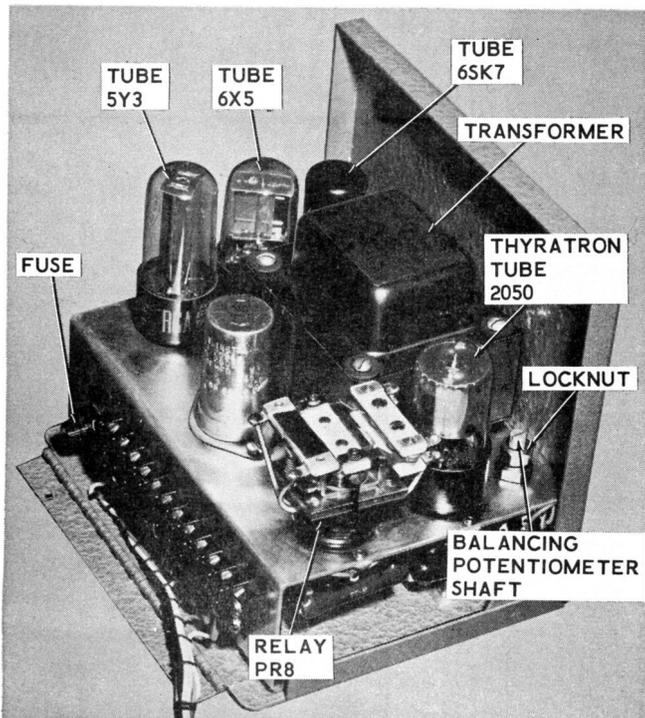

Figure 3-25. Photo Registration Amplifier
The phototube scanner (Figure 3-24) creates a signal voltage when light intensity on the phototube changes. This signal voltage is sent to the amplifier (Figure 3-25) where it is increased to fire a thyatron tube. The thyatron tube energizes a magnetic DPDT relay to apply the feed roll drive electric brake. The thyatron tube remains locked in and the relay energized until a reset switch (LSR) is operated by the cam of the sequence switch assembly. The scanner requires no adjustment for focus settings which allows immediate replacement of burned out bulbs. The scanner body is tapered to a point to allow setting the path of registration with the light beam.
- Loosen locknut (Figure 3-25) on balancing potentiometer and adjust potentiometer using a screwdriver, while flashing a card or other object in front of the scanner. Set the potentiometer to the minimum required to excite the photo eye. Tighten locknut.